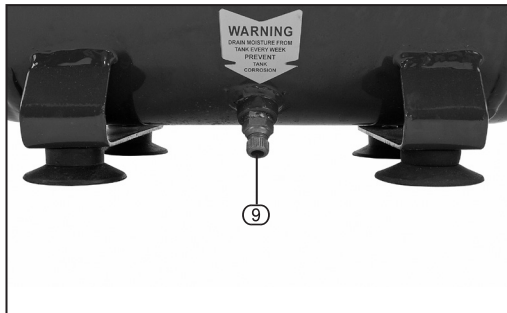

FIG. 7
9.1 BASIC MAINTENANCE AND CHECKS – FIG.7
9.2 DRAINING WATER FROM THE TANK – FIG. 7